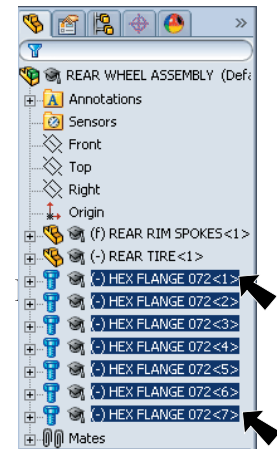

Fig. 15
Step 1. Click **Zoom to Fit**  (F) on the View toolbar.
Step 3. **Shift click all the screws** in the Feature Manger. To Shift click all screws, click the first screw in Feature Manger and hold down Shift key and click the last screw, **Fig. 15**.